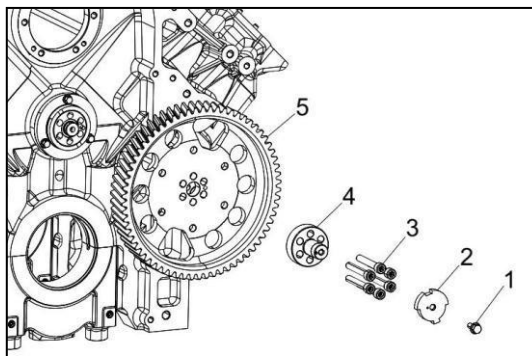

Figure 93
2. Loosen the tightening bolt and remove the signal panel (Figure 93, 2).
3. Remove the bolts (Figure 93, 3) from the connecting shaft (Figure 93, 4) of signal panel. Remove the connecting shaft, camshaft gear (Figure 93, 5).